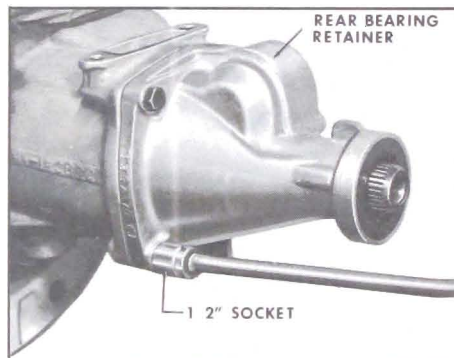

Figure 5-135
1. Remove four (4) rear bearing retaining bolts with a 9/16" socket. Remove rear bearing retainer from case. See Figure 5-135.